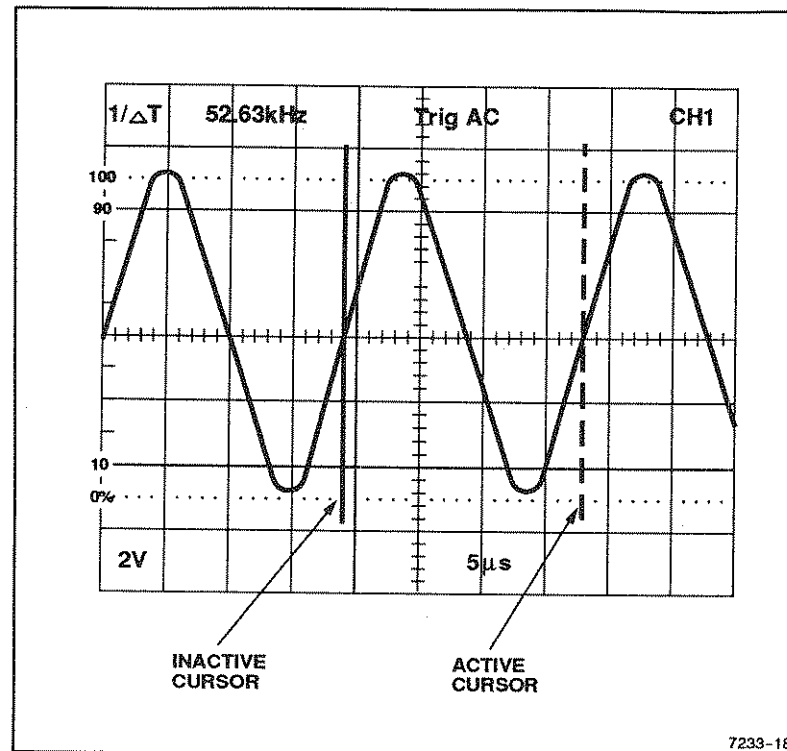

Figure 6-6. Measuring frequency.
6. Position the cursors to the zero-crossing points of the waveform using the Cursor Position control (see Figure 6-6).